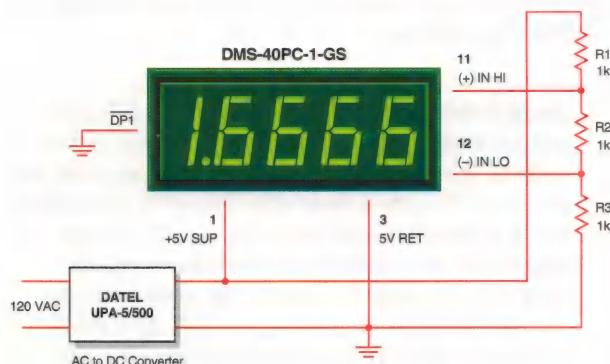

Figure 3. Differential Input Configuration
**2. Differential Input Configurations:** Differential inputs can also be measured with DMS-40PC meters as shown in the circuit of Figure 3. Differential inputs must also originate from power supplies that have a common ground with the meter's 5V RETURN (pin 3). However, differential inputs usually have both terminals above and/or below 5V RETURN. Figure 3, though not necessarily a typical real-world application, does serve the purpose of illustrating the concept of a differential signal.